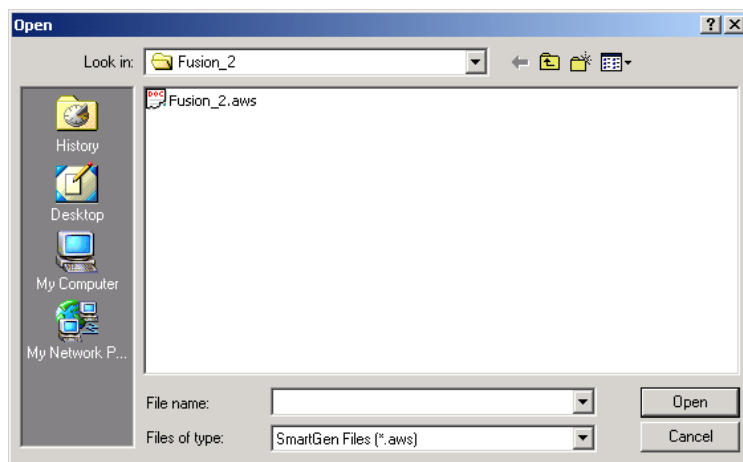

Figure 3. Open Dialog Box
- From the File menu, choose Open Workspace, or click the Open Workspace button in the SmartGen toolbar. This opens the Open Workspace dialog box (as shown in Figure 3).